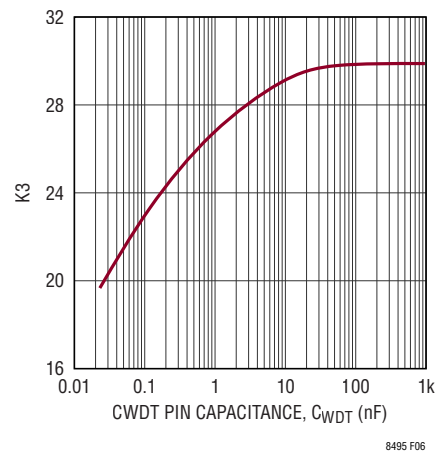

Figure 6. Upper and Lower Boundary Ratio
**Selecting the Watchdog Timing Capacitor:** The watchdog timeout period is adjustable and can be optimized for software execution. The watchdog upper and lower boundary timeout periods ( $t_{WDU}$  and  $t_{WDL}$ ) are adjusted by connecting a capacitor,  $C_{WDT}$ , between the CWDT pin and ground.  $t_{WDU}$  is typically  $30 \cdot t_{WDL}$  for large  $C_{WDT}$  values (greater than about 50nF). For lower values this ratio reduces as shown in Figure 6.
where K3 is the ratio between upper and lower boundary with typical values shown in Figure 6.